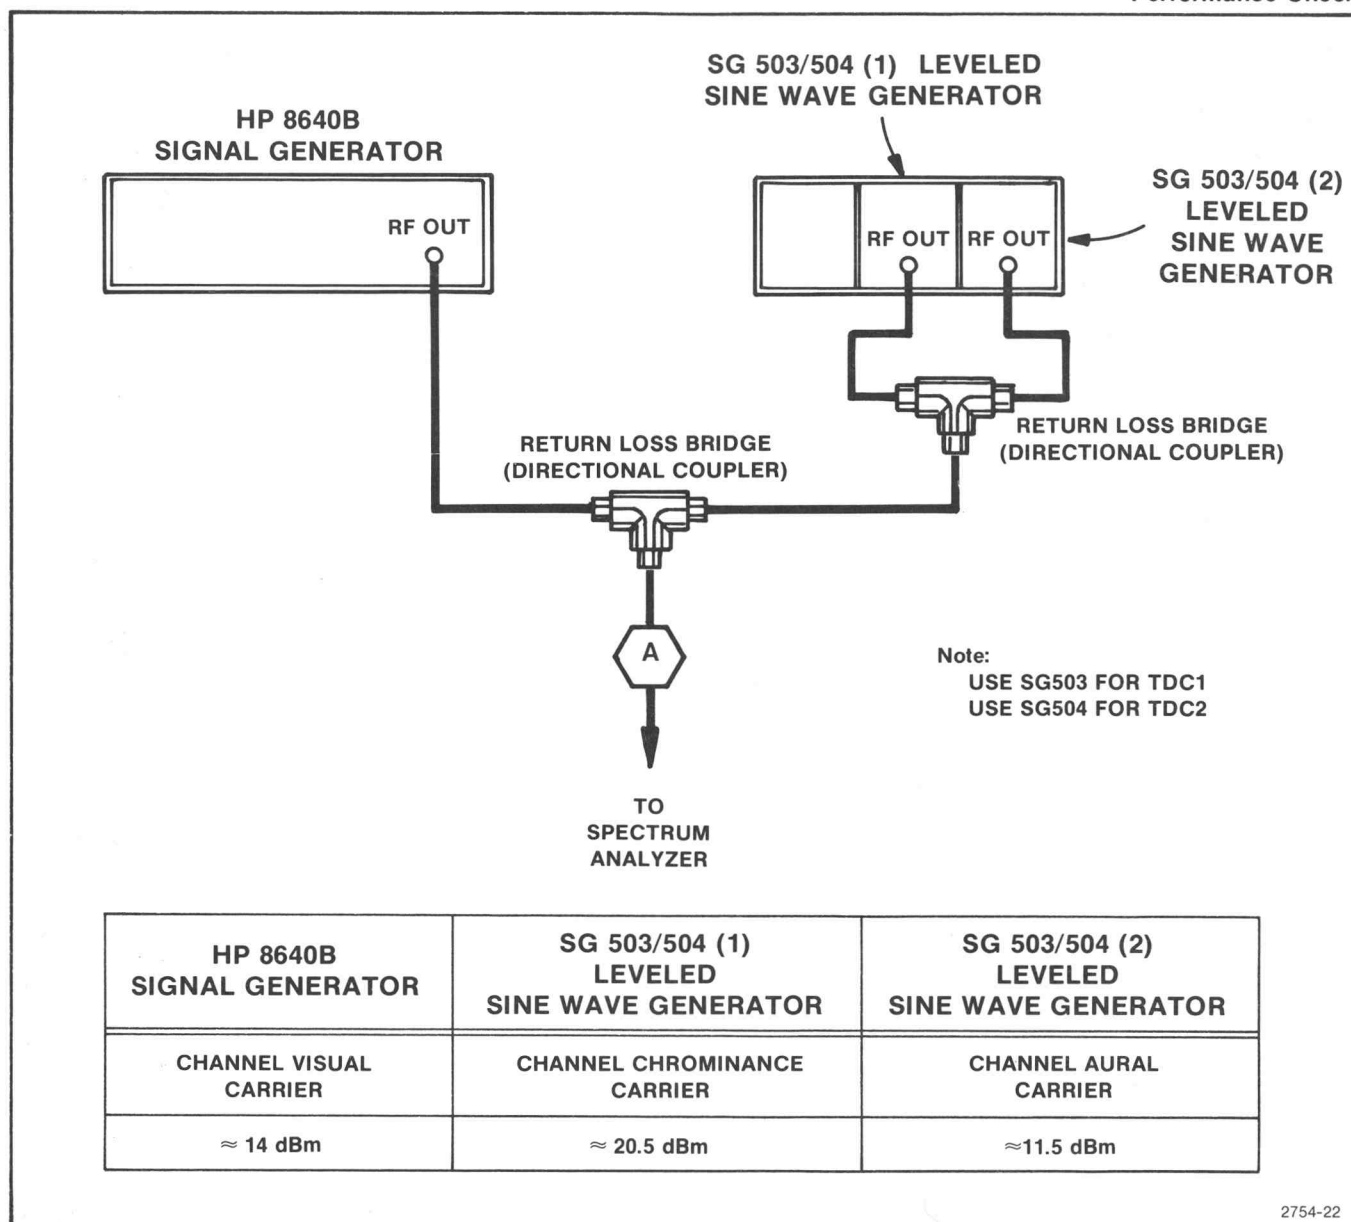

Fig. 4-11. Test Setup for Measuring Chrominance Carrier/Aural Carrier/Visual Carrier Intermodulation (3 Tone Test).
g. Reset the Generator (1) and Generator (2) frequencies to the 2nd adjacent channel frequencies, and perform parts a through e.
a. Connect the test equipment as shown in Fig. 4-11. Use a spectrum analyzer such as a 7L13 to set the power levels at point 'A' in Fig. 4-11 according to the following table:
b. Now connect point 'A' in Fig. 4-11 to the SYSTEM RF Input. Push in the 1450-1 Cont (Synchronous Detection Mode), Sound Trap Out, and Sync Tip buttons. The 1450-1 Unlocked light should be "off". If the Unlocked light is "on", disconnect the aural carrier from the test setup momentarily. The 1450-1 Unlocked light should remain "off" throughout this step. Note the 1450-1 readout indication.